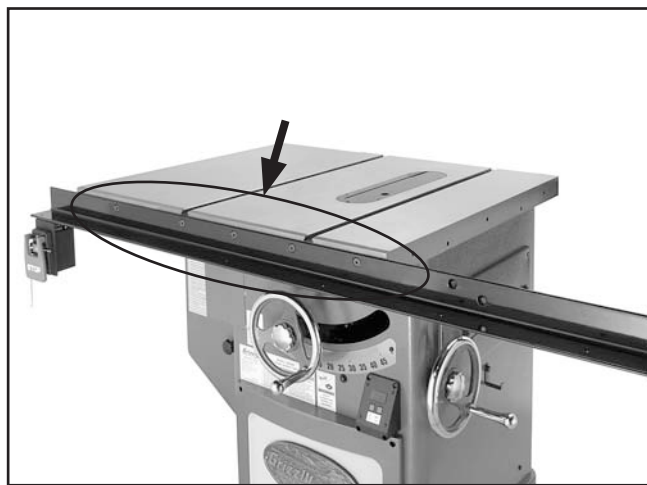

Figure 10. Front rail installed.
1. Fasten the 91³/₈" front rail onto the table saw with five flat head screws as shown in **Figure 10**.